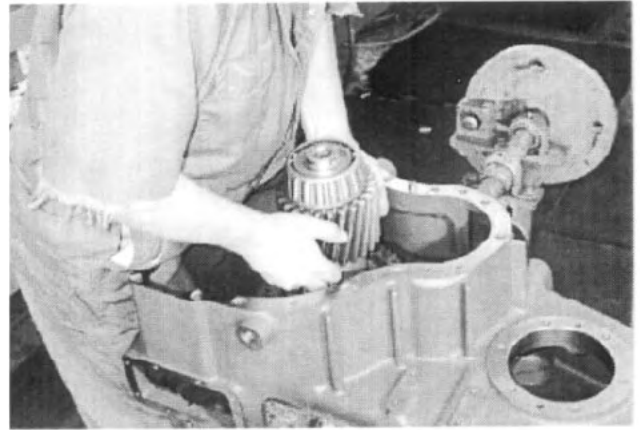

Fig. 29
27. Remove the intermediate shaft assembly from the transfer case housing. To prevent damage to the shaft assembly, store the assembly in a secure area. *See Fig. 29.*